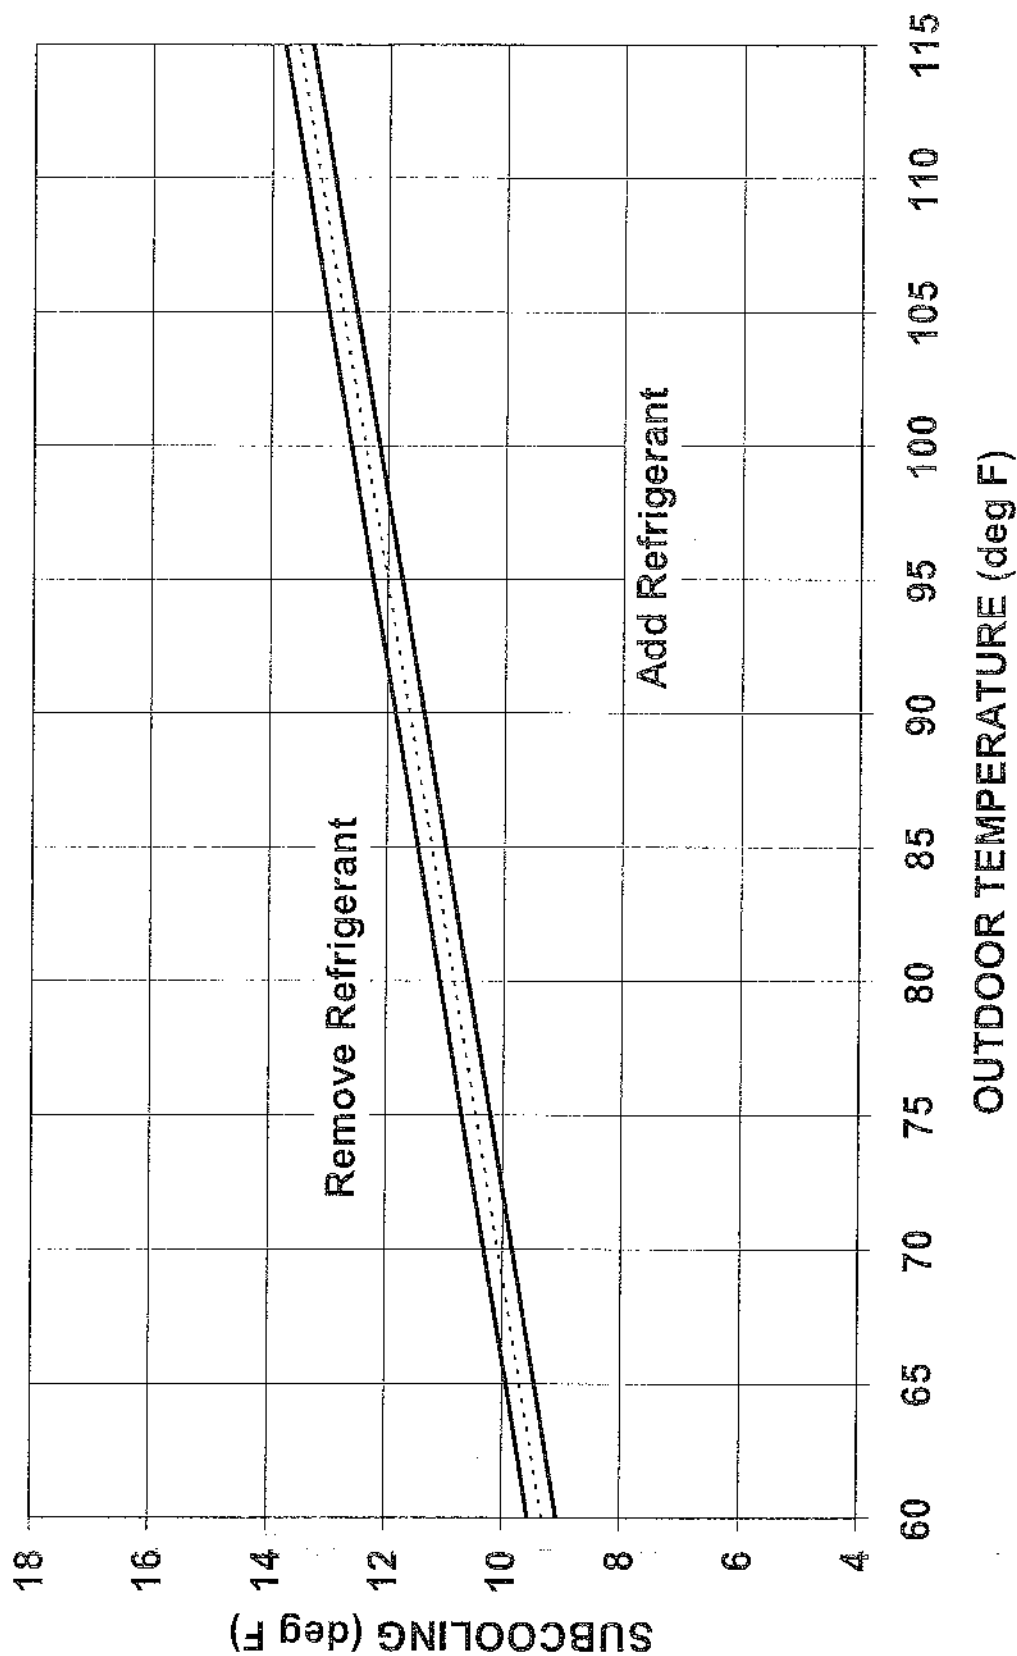

Figure 3. Subcooling Charging Chart
4. Subtract T3 from T2. (T2 - T3) This is the subcooling value. Compare this value and the outdoor temperature (T1), to the chart on page 8 (Figure 3). If the value is below the line, add refrigerant. If the value is above the line, remove refrigerant charge.